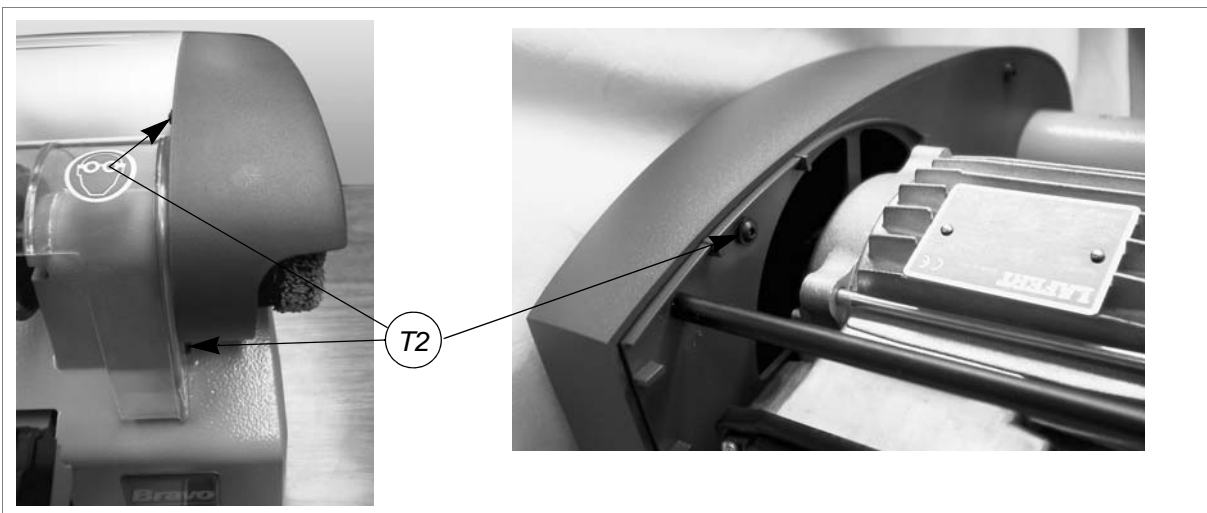

Fig. 36
- 4) Loosen the 3 screws (T2) (fig.36) on the belt cover and remove (pull out towards the front of the machine).
- 6) Loosen the nuts (U1) on the stay bolts (U2) and remove together with their washers (fig.36).
- 4) Loosen the 3 screws (T2) (fig. 36, page 25) on the belt cover and remove (pull towards the front of the machine).
- 6) Replace the belt cover and fix with the 3 screws (T2) (fig. 36, page 25).
- 7) Loosen the 3 screws (T2) (fig. 36, page 25) on the belt cover and remove (pull towards the front of the machine).
- 16) Replace the belt cover and fix with the 3 screws (T2) (fig. 36, page 25).